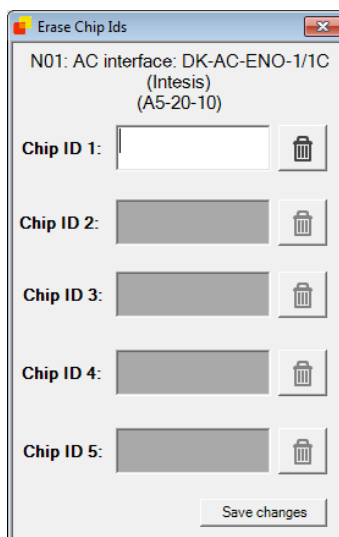

Figure 4.19 Erasing process
- **Erase:** When pressing on the trash icon a new window will pop-up (see **Figure 4.19**). On this screen, user will see all Chip IDs from the associate node and will be able to delete each Chip ID individually. Remember to press the **Save changes** button before closing the window.